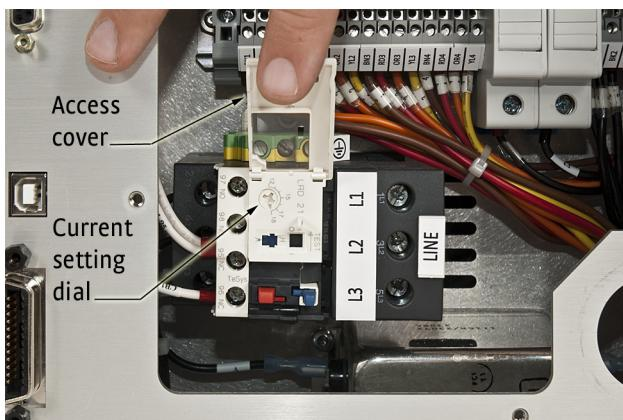

FIGURE 6-4 Circuit breaker
5. Refer to FIGURE 6-2 to locate the fuse detailed in FIGURE 6-4.
6. Lift the fuse access door and visually confirm the setting as shown in FIGURE 6-4.